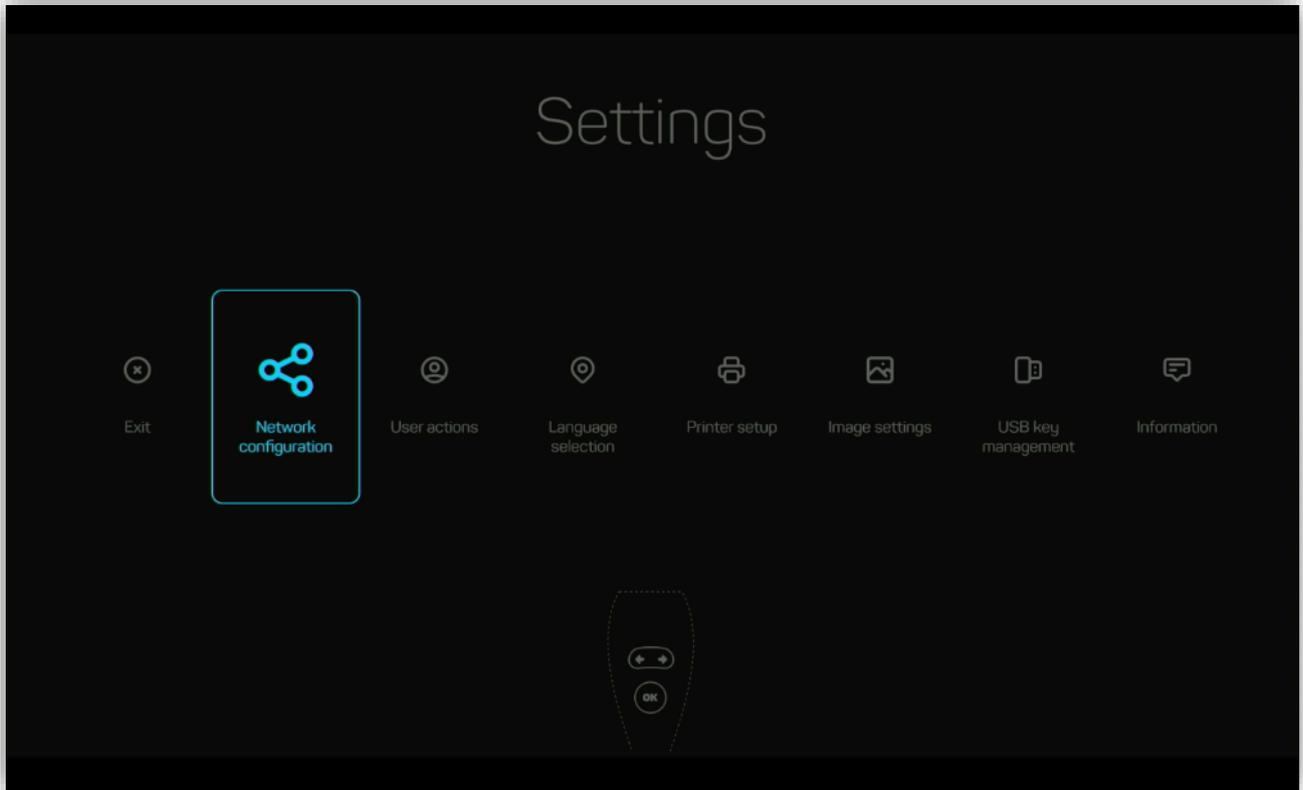

Figure 10 - Settings menu
- To configure the device, in the welcome menu select Settings to get to the Settings menu (see Figure 10).